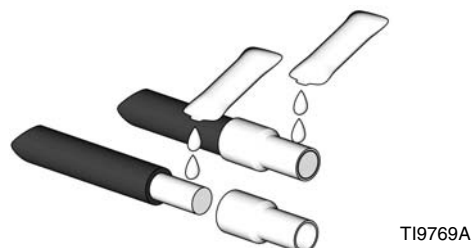

FIG. 7
- c. Remove ferrule and apply oxide inhibitor to bare wire. See FIG. 7.